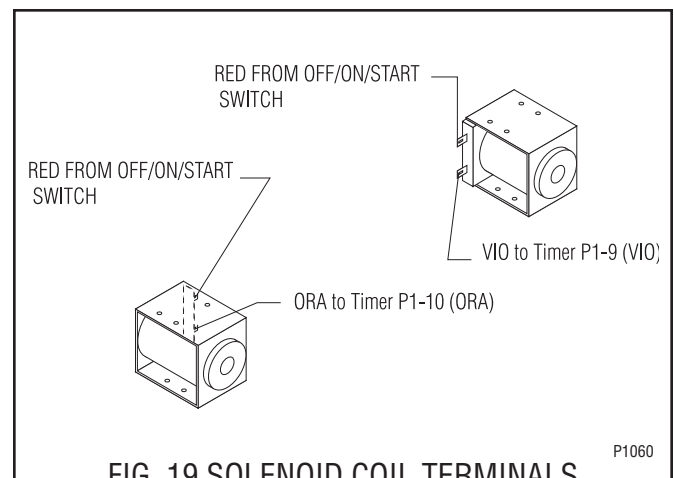

FIG. 19 SOLENOID COIL TERMINALS
6. Install new solenoid (4) on mounting bracket (3) using four #8-32 truss head screws.
7. Slide new solenoid (4) and mounting bracket (3) on the solenoid plunger (5) far enough so the hole in the mounting bracket (3) is in line with the hole in the solenoid mounting plate (6).
8. Install shoulder screw (2).
9. Slide timer mounting bracket and timer (1) under the two #8-32 pan head screws on the left rear of the motor support and tighten screws.
11. Refer to Fig. 19 and reconnect the wires to the solenoid coil terminals.